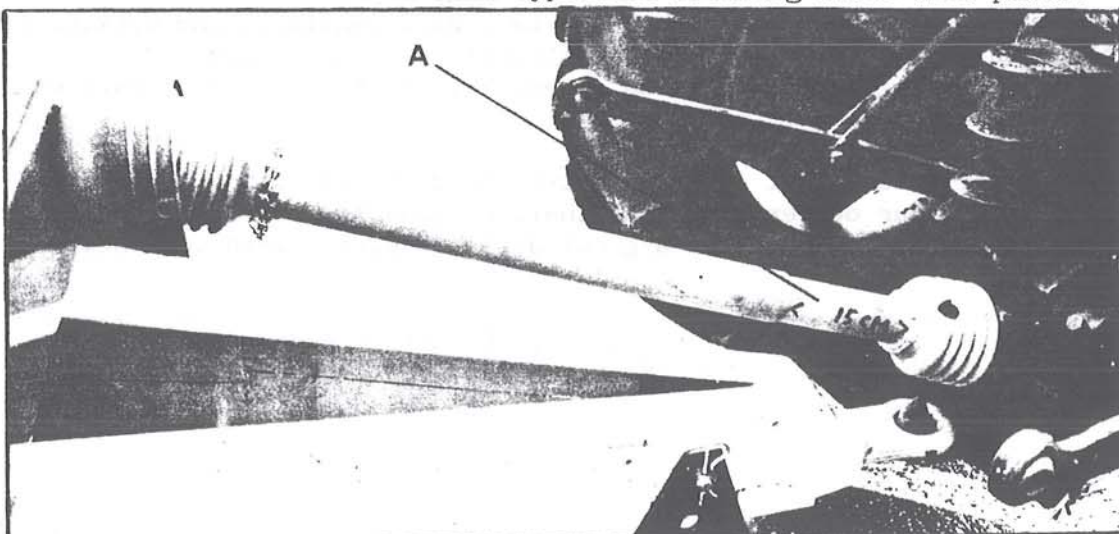

Fig. 1. Clearance of 15 cm. when connecting PTO-shaft.
2. Connect the power take-off (PTO). The PTO should extend about 15 cm in the straight position (fig. 1-A) to allow it to slide freely in and out when taking bends (otherwise risk of fracture).